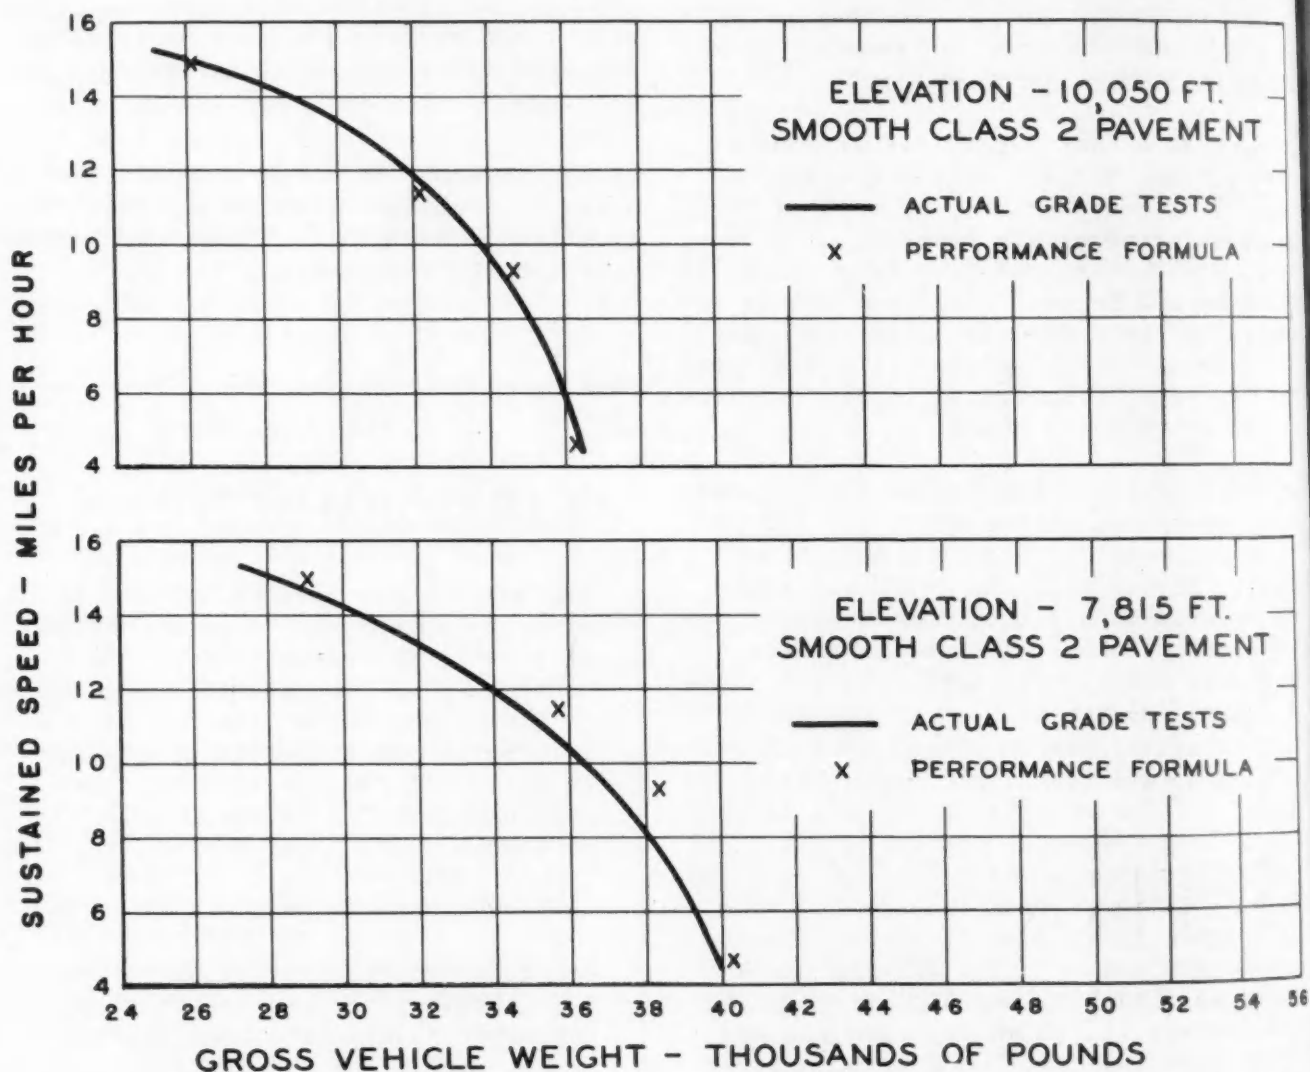

Fig. 1 - Comparison of hill-climbing ability determined by grade tests and performance formula
The Dynaflo, Fig. 1, primarily consists of a hydraulic torque converter and, secondly, a planetary-type gear train that provides a reverse and two forward driving ranges. There is no clutch pedal for disconnecting the engine. The driver selects driving ranges by a lever on the steering column, not unlike the conventional gear shift lever. See Fig. 2. All he must use to operate the car for practically all normal driving are accelerator, brake, and steering wheel.
■ Fig. 1 - Cutaway view of Buick's Dynaflow Drive
To provide a "super-low" for extremely hard pulling and for engine braking on descent of heavy grades, as well as to provide for necessary reversal of direction, a planetary gear set is provided in the Dynaflow Drive. This gear set is controlled by a manually selected hydraulic system. The planetary is a dual pinion type set, illustrated in Fig. 1, driven by the turbine shaft.
Proximity of calculated results and performance in actual road tests, in Fig. 1, speaks well for this formula. These tests at four different altitudes were conducted by the War Department with a 3-axle tractor semitrailer. They demonstrate the reliability of the formula for different altitudes and surface types.